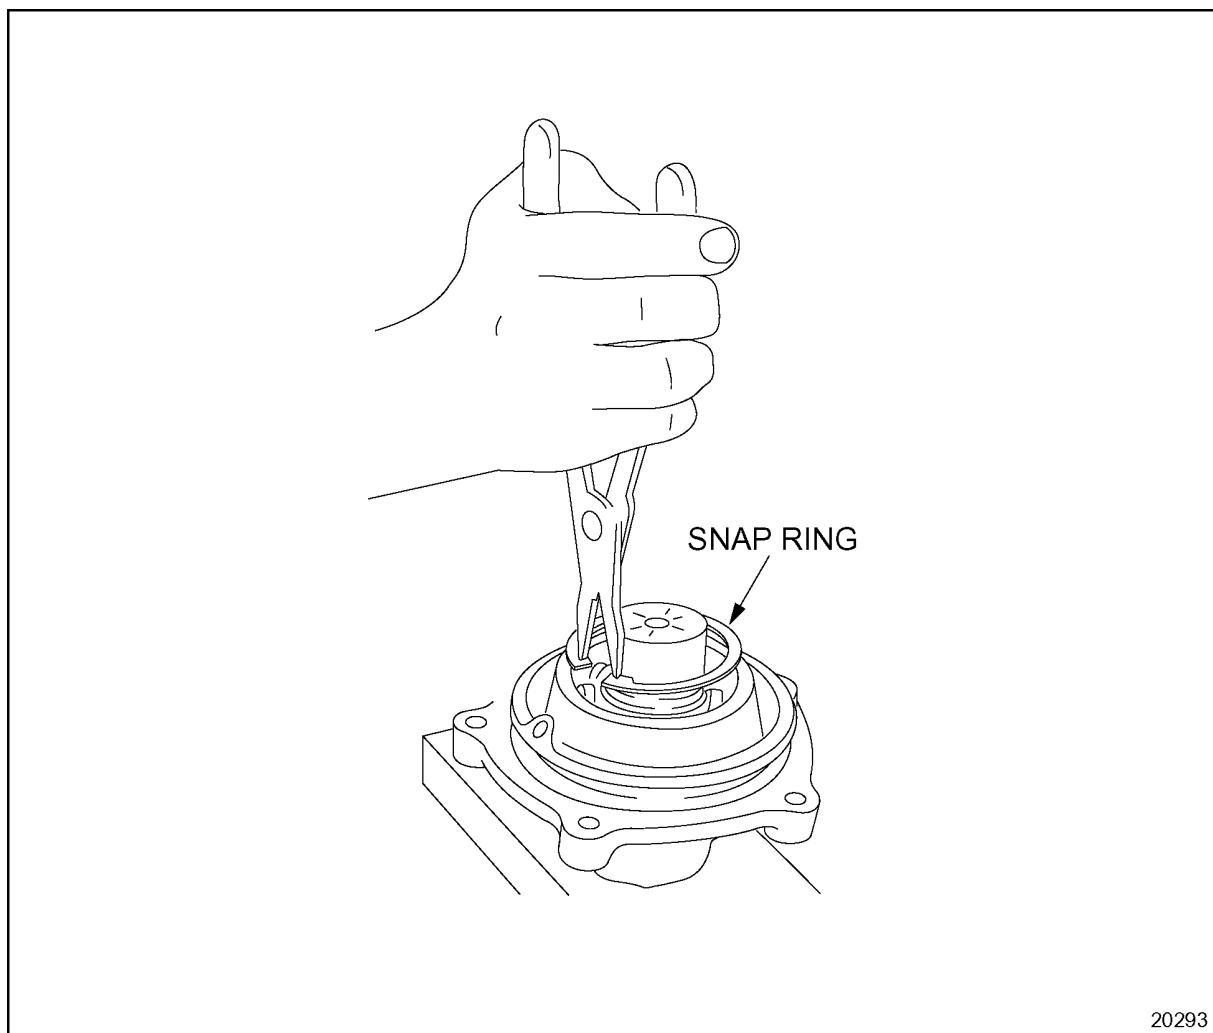

Figure 1-405 Snap Ring Installation
12. Install the snap ring to the accessory drive housing making sure the snap ring is fully seated in the groove a full 360°. See Figure 1-405.